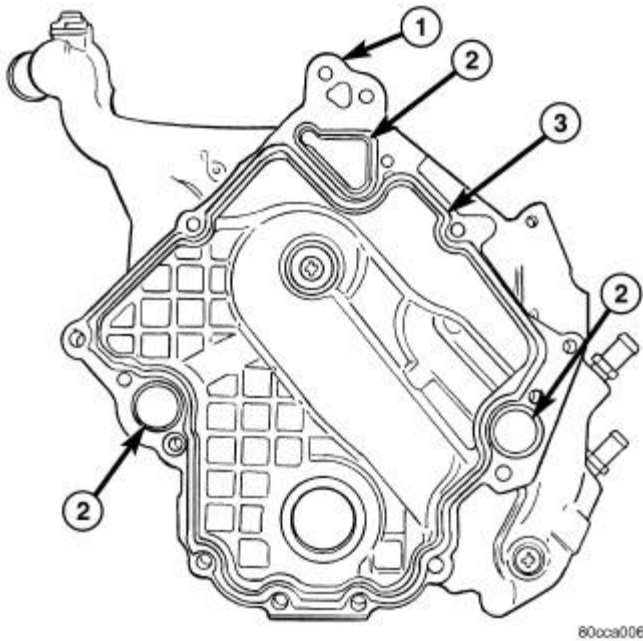

Fig. 214: TIMING COVER SEALANT
2. Inspect the water passage o-rings (2) for any damage, and replace as necessary.
3. Apply Mopar® Engine RTV sealer to front cover as shown in **Fig. 214** (3) using a 3 to 4 mm thick bead.